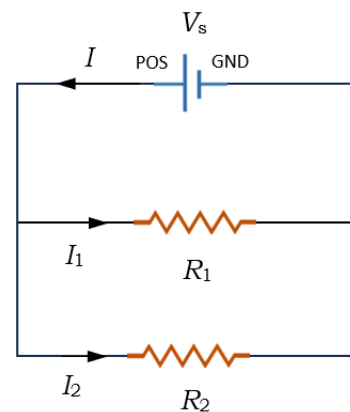
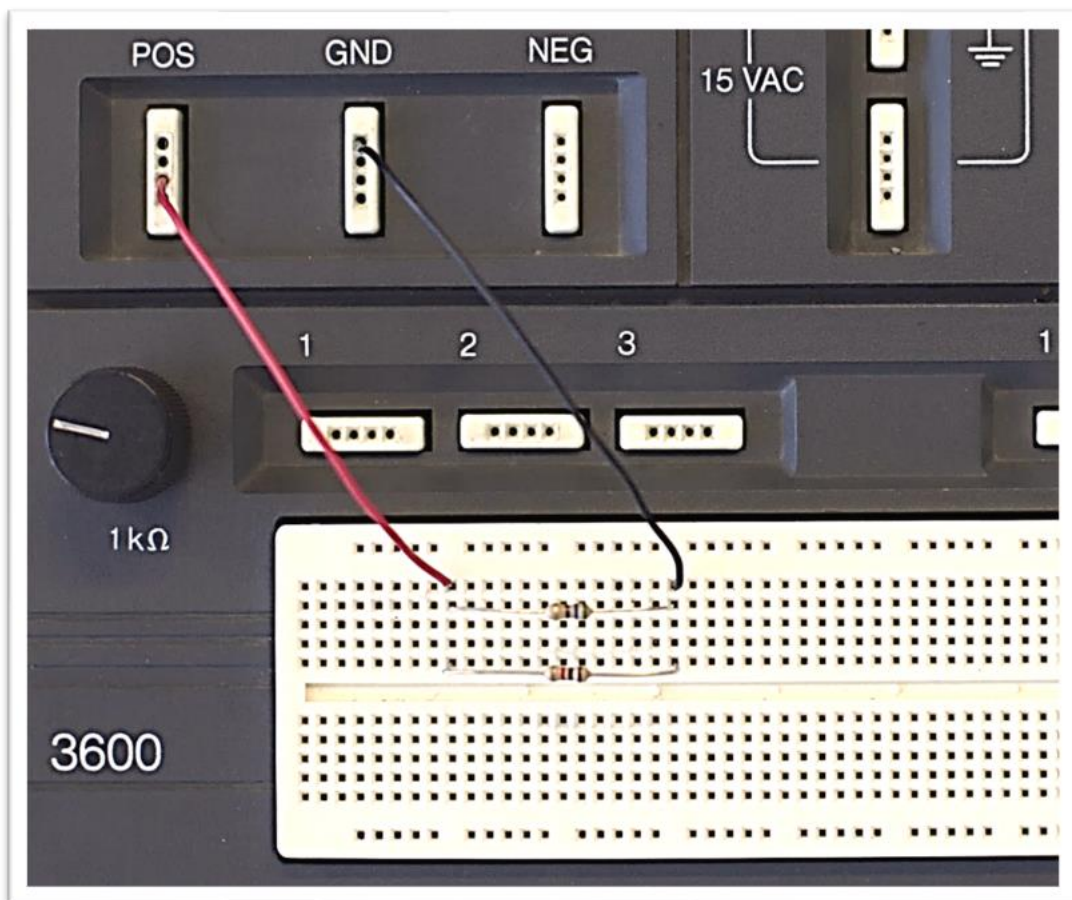

Fig. 2: Two resistors in parallel
Fig. 4: Parallel circuit
Resistors in Parallel: When two resistors are connected in parallel to each other and to a power supply V_s (**Fig. 2**), they share the same potential difference such that
2. Implement the circuit given in **Fig.2** as shown in **Fig.4**.